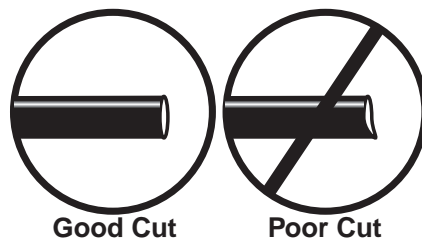

fig. 11
- WHEN CUTTING OR TRIMMING THE AIR LINE, USE A HOSE CUTTER, A RAZOR BLADE OR A SHARP KNIFE. A CLEAN, SQUARE CUT WILL ENSURE AGAINST LEAKS. DO NOT USE WIRE CUTTERS OR SCISSORS TO CUT THE AIR LINE. THESE TOOLS MAY FLATTEN OR CRIMP THE AIR LINE, CAUSING IT TO LEAK AROUND THE O-RING SEAL INSIDE THE ELBOW FITTING (FIG. 11)
- Cut off air line leaving approximately 12" of extra air line. A clean square cut will ensure against leaks (see fig. 11). Insert the air line into the air fitting. This is a push to connect fitting. Simply push the air line into the 90° swivel fitting until it bottoms out (9/16" of air line should be in the fitting).
- Check the air line connection by deflating the spring and removing the line by pulling the collar against the fitting and pulling firmly on the air line. Trim 1" off the end of the air line. Be sure the cut is clean and square (see fig. 11). Reinsert the air line into the push-to-connect fitting.